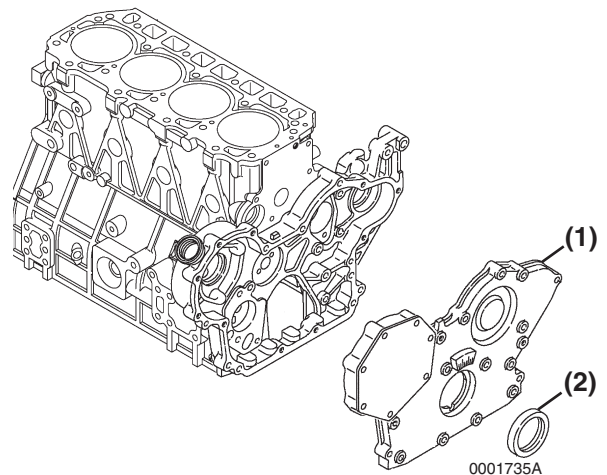

Figure 6-108
1. Remove the seal (**Figure 6-108, (2)**) from the cover (**Figure 6-108, (1)**).
2. Apply a continuous bead of ThreeBond Liquid Gasket No. 1212, Yanmar Part No. 977770-01212 to the outside diameter of a new oil seal (**Figure 6-108, (2)**), and install in the gear case cover. Apply lithium grease to the lip of the seal.